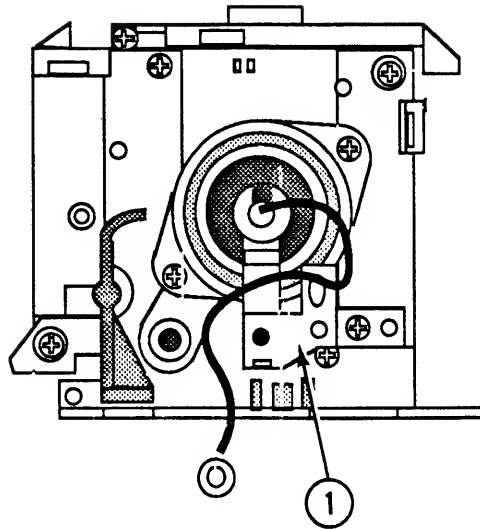

FIGURE 18
5. Place the left heater support (Figure 18, #1) in position and replace the Phillips screw.